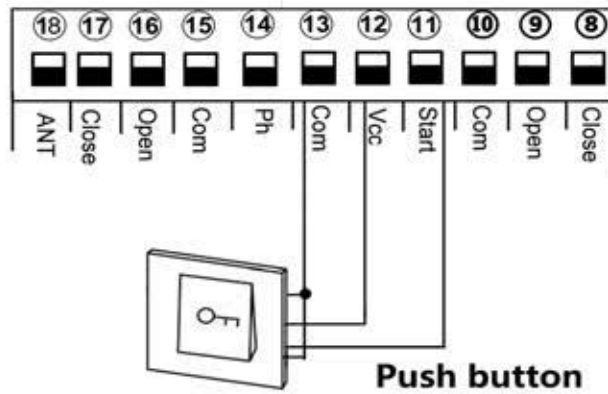

Fig 12
6.6. Connect to start terminal. Fig 12